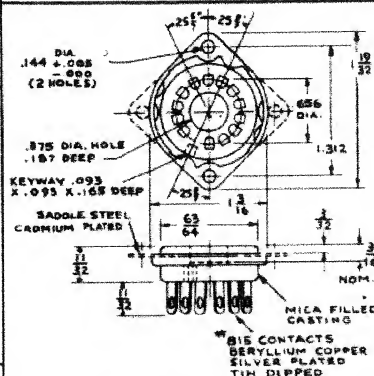

FIG. 8 CONTACT SOCKET ASSEMBLY HSK 106 AND HSK 112 FOR STANDARD AND SUPER TUBES
- Note 2 See Fig. 8. The tube socket is oriented with respect to the viewing position so that A-A', intersecting the